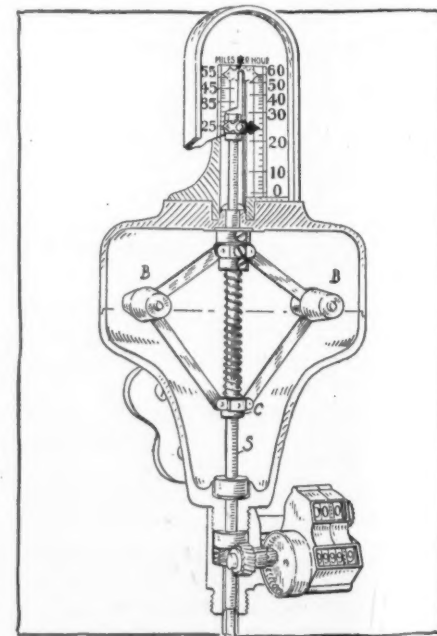

FIG. 30—SMITH MOTOMETERS
**R. H. Smith Mfg. Co.**—The 1909 models of Smith motometers are practically the same as the 1908 ones, the only change being one relative to the connection of the odometer. The company manufactures 50, 60 and 100-mile instruments, in all of which the maximum hand is extra. This instrument is one of the simplest of those operating on the centrifugal force scheme as illustrated in Fig. 30 consists of balance weights B linked to the rotating shaft S at the upper end and to a bushing C at the lower end, which is on a sleeve. In proportion as the weights fly outward, with increased speed of the shaft S, the bushing C is raised and with it the pointer works on the vertical dial.